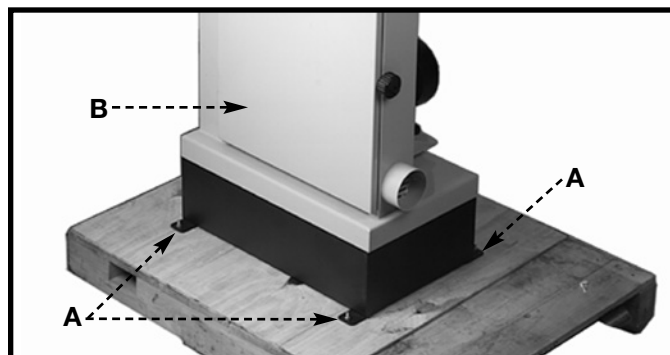

Fig. 1
1. Remove the four bolts (A) Fig. 1 (three of which are shown) that attach the saw (B) to the shipping skid.